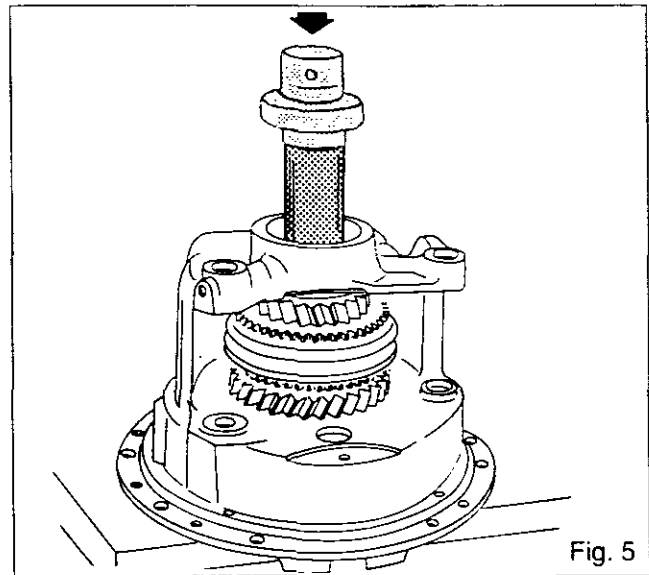
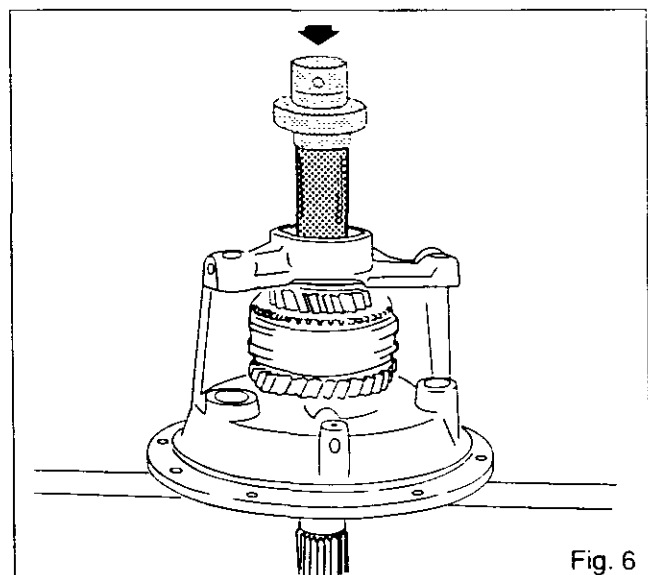

Fig. 5
Fig. 6
- 16. Unscrew set-screw (10).
- 17. Withdraw the shaft (13) carrying the reverse idler gear (15).
- 18. Take out the two washers (12) and (17), the reverse idler gear, the two needle roller bearings (14) and (16), and the spacer (11).
- 20. Extract circlip (25) (reversing mechanism with speedshift).
- 21. Remove spacer (36), sealing ring (37) and pipe (42) (reversing mechanism without speedshift).
- 23. Press out the secondary shaft (19) using a press and a suitable press tool (Fig.5 - reversing mechanism with speedshift) - (Fig.6 - reversing mechanism without speedshift).